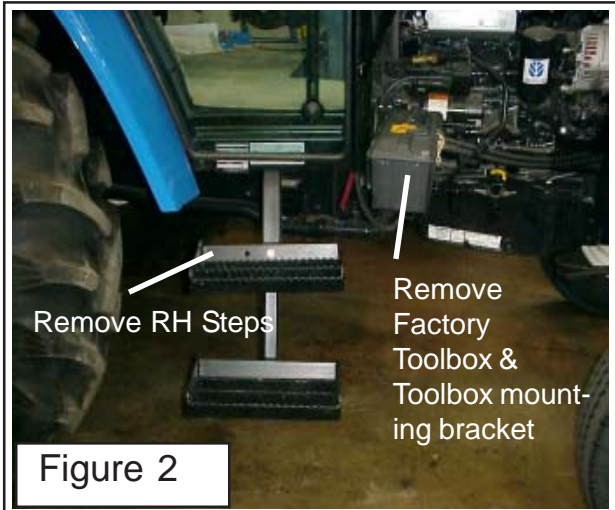

Figure 2
2. Remove RH Side Steps. The steps on the RH side of the tractor will be removed and not used so as not to interfere with the clearance of the mower head. The factory toolbox (if equipped) will need to be removed also for clearance. It will be dealer and/or customers choice on where and whether the toolbox is remounted somewhere else for use. (See Figure 2 & 3). The RH step